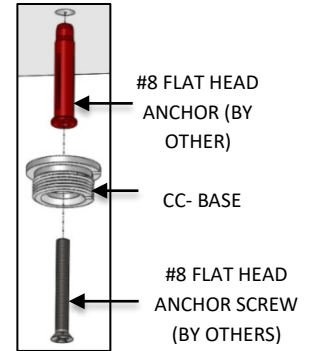

FIG. 14- HARD CEILING
- Install the CC-BASE to the #8 FLAT HEAD ANCHOR (by others) previously installed at the non-powered mounting location and secure with the #8 FLAT HEAD ANCHOR SCREW (by others) as shown in FIG. 14.